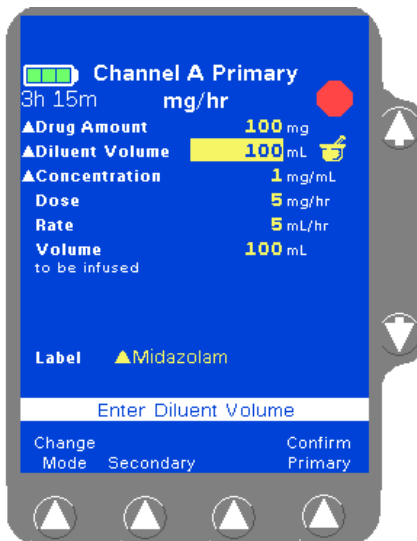

Figure 4-42 Non-Standard COLLEAGUE GUARDIAN Programming—Non-Weight-Based
- If values are changed so that the resulting drug amount, diluent volume, or concentration differs from the defined values, the changed values are indicated by white triangles beside them (Figure 4-42).